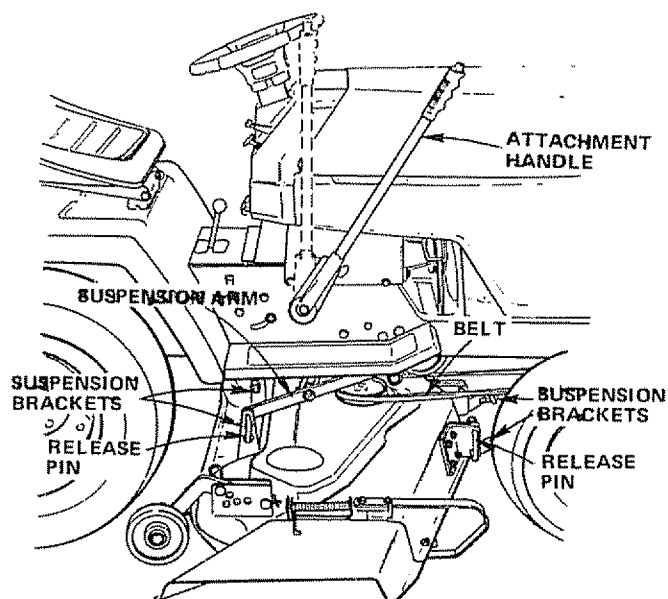

FIGURE 31
2. Pull the four (4) Release Pins out of Suspension Brackets (Fig. 31).
NOTE: IF AN ATTACHMENT OTHER THAN THE MOWER DECK IS TO BE MOUNTED ON THE TRACTOR, THE L.H. AND R.H. SUSPENSION ARMS (FIG. 31) SHOULD BE REMOVED FROM TRACTOR.